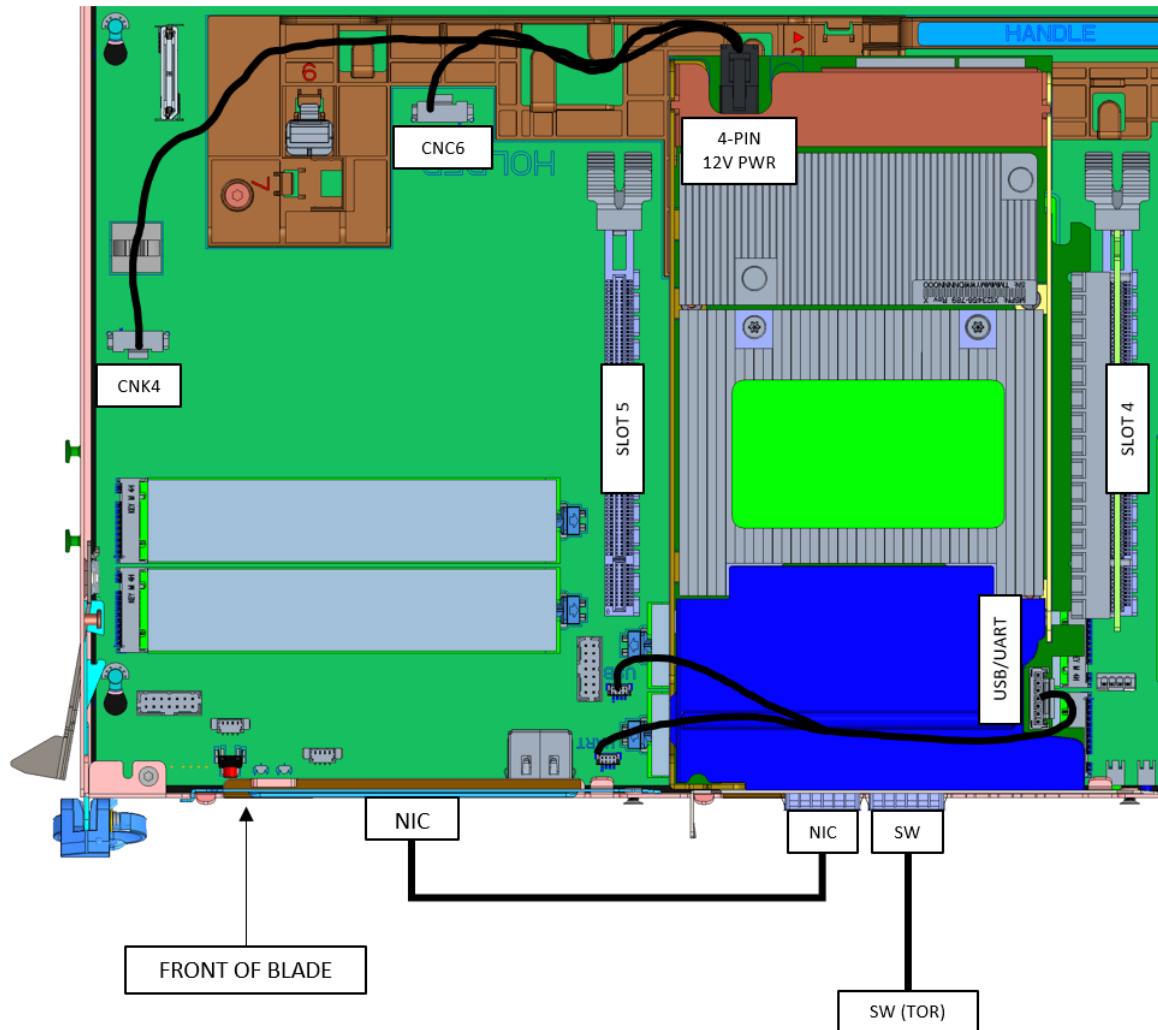

Figure 14: C2030 Host Server USB and UART cabling example
1. Ensure the A2040 internal USB and UART cables are connected to the Host Server. Example connected per Figure 14.